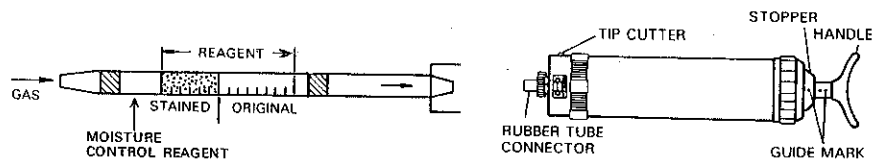

Fig. 1
1. Break both ends of a new detector tube by using the tip cutter, and insert the detector tube end securely according to the direction of printed arrow mark into the rubber tube connector as shown in Fig. 1.